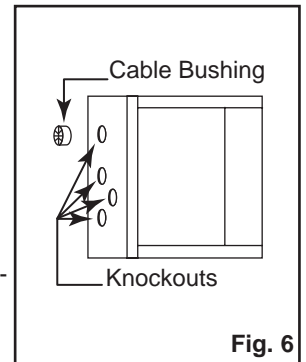

Fig. 6
**HARDWARE** Remove suitable knockout(s) in box(es) and insert cable bushing(s). See Fig. 6.